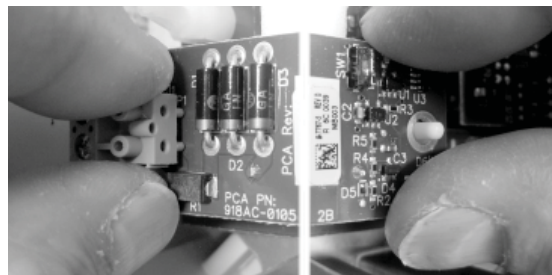

Figure 3 - Pressing the INPUT MODULE into place
- d. Using the thumb and index finger of each hand, press the INPUT MODULE into place. A “click” should be heard as the retaining standoffs click into place. See Figure 3